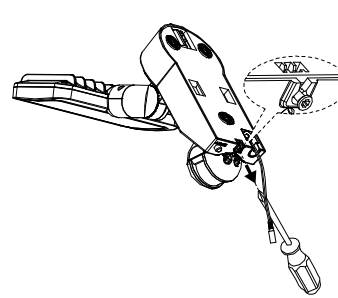

Fig. 1
- Loosen the screw (Fig. 1) of the wall bracket
**Please note:** Before replacing the battery the switch on the lamp unit must be set to OFF and the solar module must be disconnected from the main unit. To replace the battery, open the cover of the main unit as described in Fig. 1 and 2 in the section "Main Unit". Remove the old batteries from the holder and insert new ones. If possible, charge the rechargeable batteries first using a standard charger for 1.2 V AA NiMH batteries. If unable to charge the batteries with a charger please follow the instructions in the section "CHARGING THE SOLAR LIGHT FOR THE FIRST TIME".